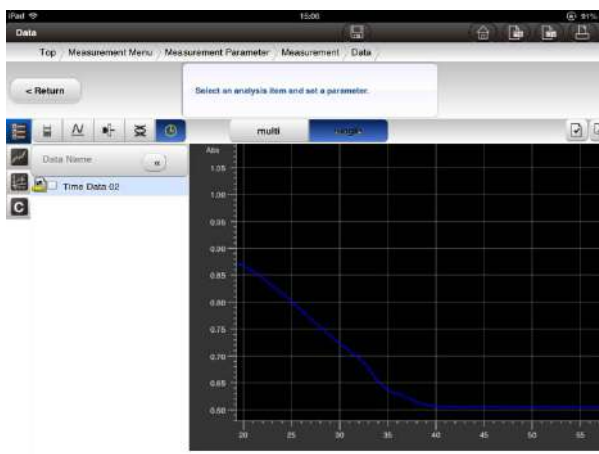

Fig. 4-156 Data Confirmation Window
- (1) Press  [Data button] and move to the data confirmation window (Fig. 4-156).